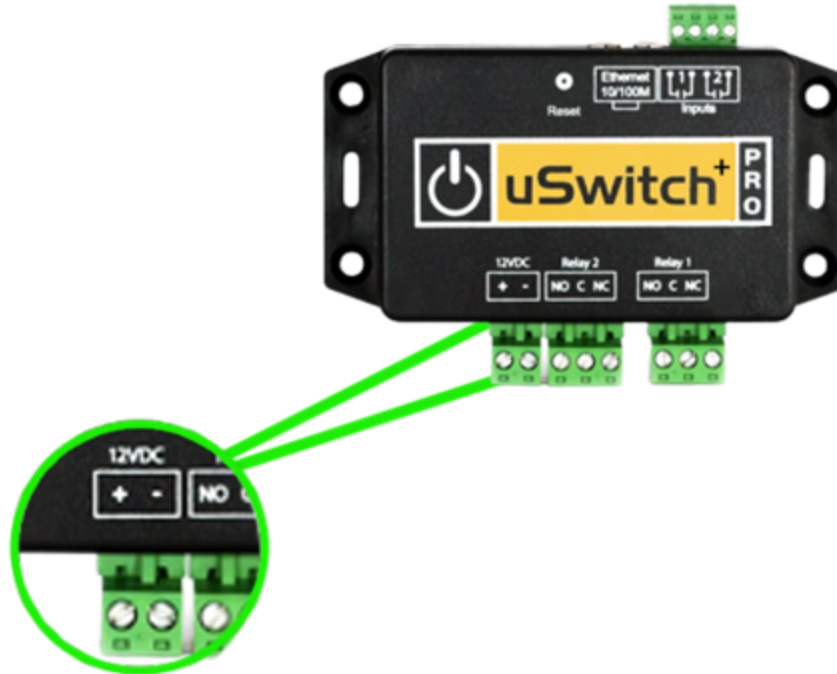

Figure 1
1. can be powered by a DC regulated power supply in the 9-30Vdc range. Connect the appropriate DC power supply to the + and - terminals in Figure 1 (regulated power supply recommended). The power supply should be rated to meet the operating current of the (see appendix C for power specifications) that receive power from the uSwitch. As shown in the photo, the + terminal is closest to the outside edge; the - terminal is closest to the "Relay" connectors.